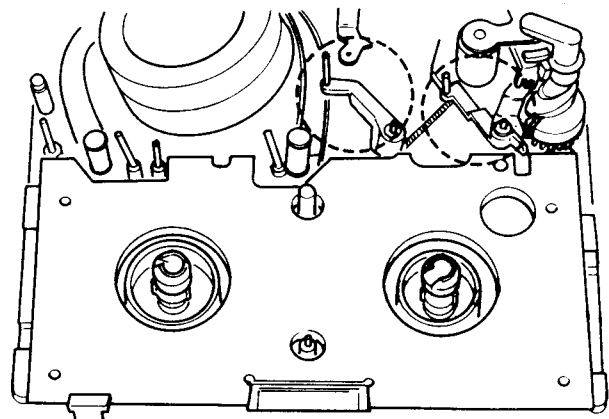

Fig. 27
- Rotate the Capstan Rotor in the anti-clockwise direction until the mechanics reaches the position shown in Fig. 27.